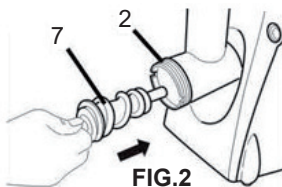

FIG.2
Insert the worm (7) into the feed channel, fixing it on the motor pin (fig. 2).
Carry out the same operations indicated in the “Tomato Processor Use” section, up to the illustration in fig. 2.
Carry out the same operations indicated in the “Tomato Processor Use” section up to the illustration in fig. 2.